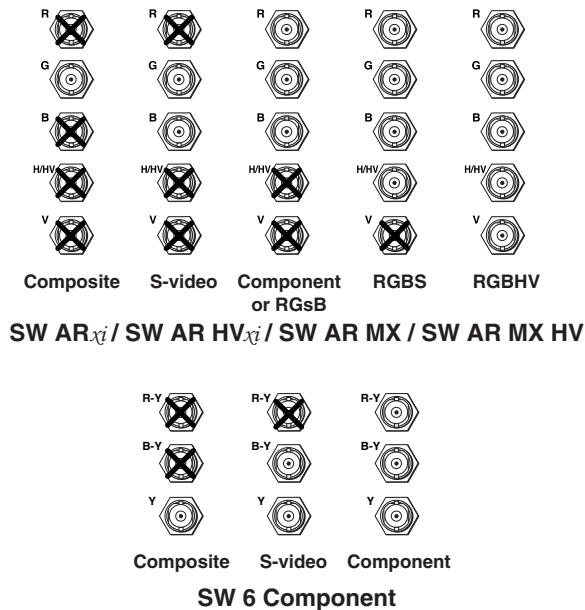
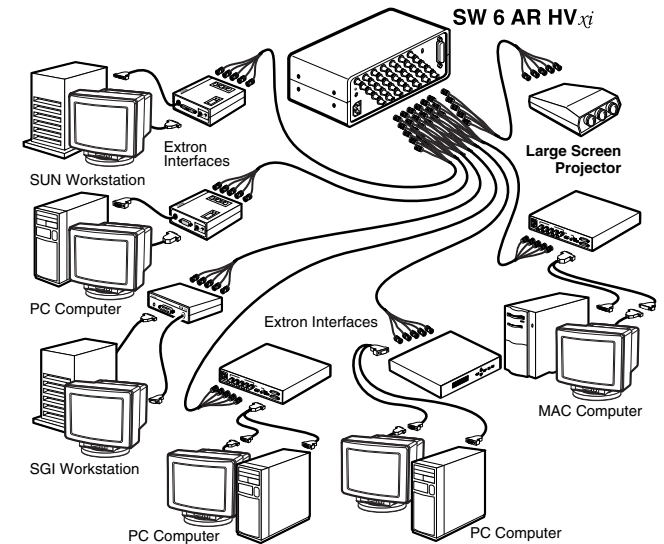

Figure 18 — Connecting the switcher
Figure 19 — SW 6 AR HVxi cabling
- Use BNC connectors to connect each input device to the input connectors (figure 18). MBC cables or MBC buffers may be required for computer/monitor/switcher connections, as shown in figures 19 and 20.